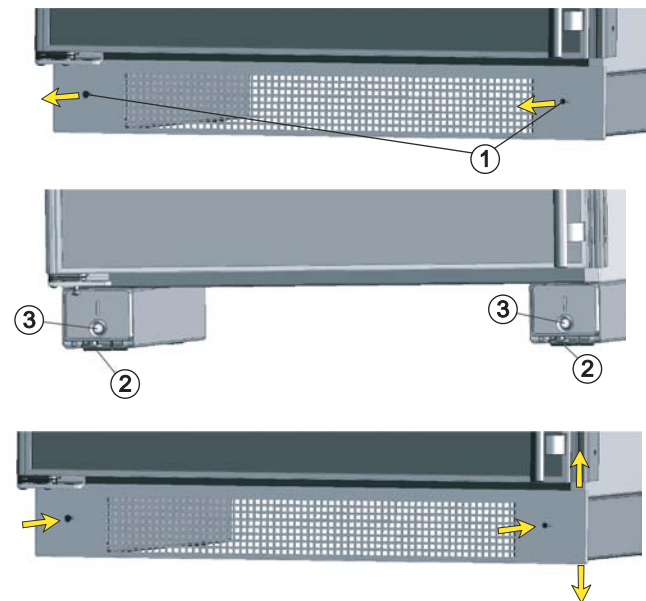

Figure 2
Leveling the Refrigerator - Figure 2
1. Loosen the lower air vent screws (Fig. 2, 1).
The height can be adjusted in front by twisting the leveling wheels (Fig. 2, 2).
2. Twist the adjusting bolt (Fig. 2, 3) to set up the back of the refrigerator.